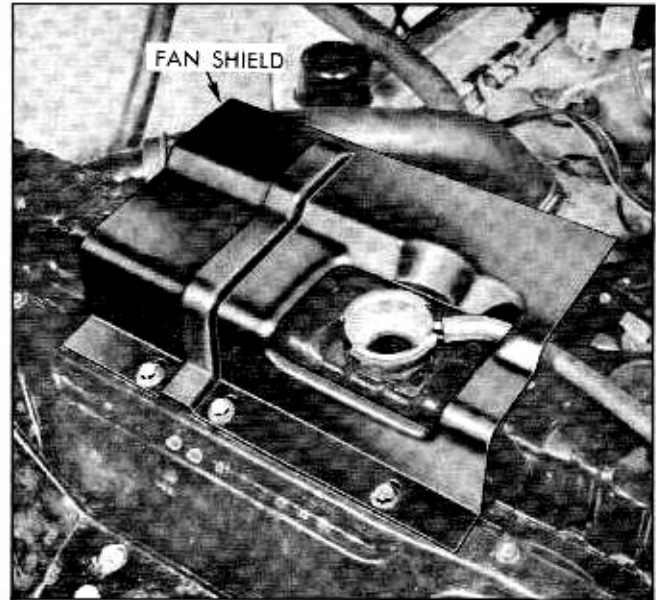

Fig. 6A-16 Radiator Fan Shield
3. Remove radiator fan shield (Fig. 6A-16).